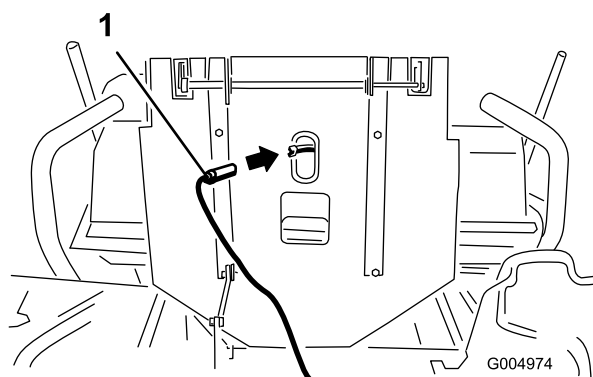

Figure 5
6. Unplug the seat switch wire harness from the bottom of the seat (Figure 5).